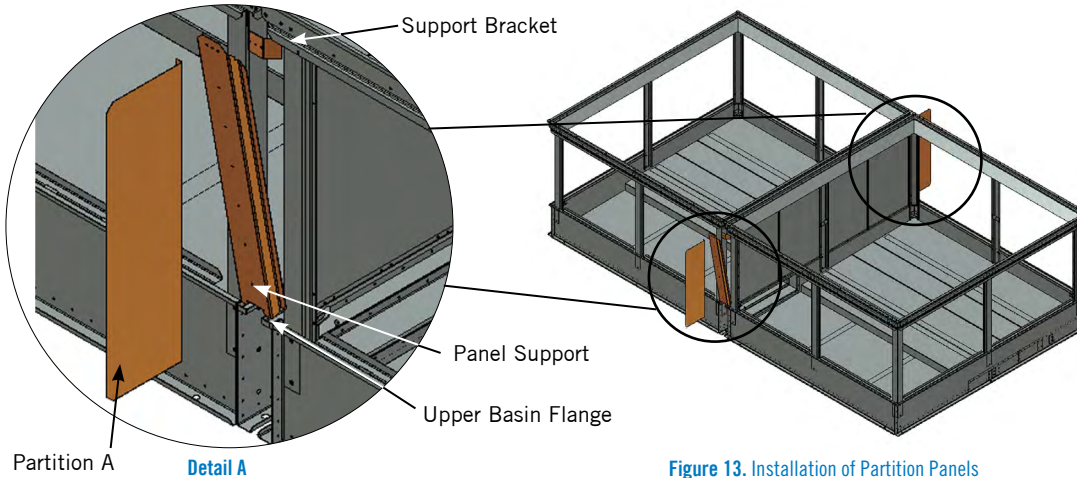

Figure 13. Installation of Partition Panels
1. Set the base of the panel support into the upper basin flange while positioning the support bracket as shown in **Figure 13, Detail A**. Slide the support bracket up behind the corner gussets on the columns.